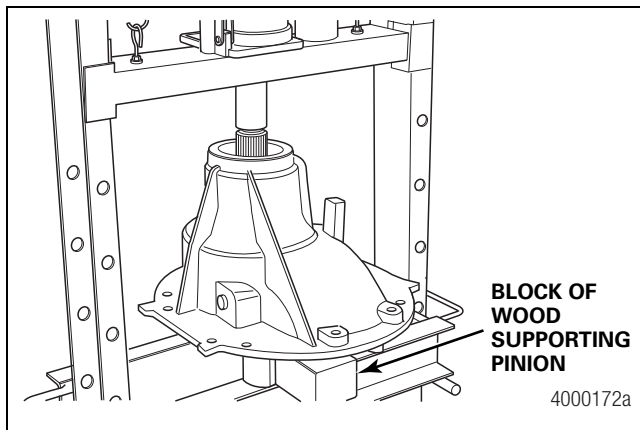

Figure 5.7
5. Place the carrier into a press. Figure 5.7.
6. Install the pinion shaft assembly into the carrier. Seat the inner bearing cone fully against the inner bearing cup. Figure 5.7.
7. Support the pinion shaft with blocks of wood so that it remains fully seated in the carrier. Figure 5.7.